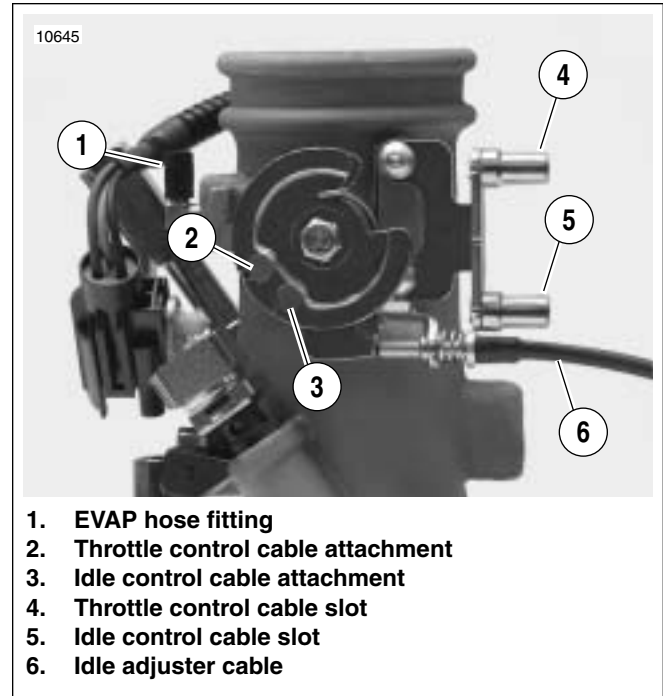

Figure 4-99. Throttle Cable Bracket (Typical)
3. See Figure 4-99. On California models, pull EVAP hose from fitting (1).